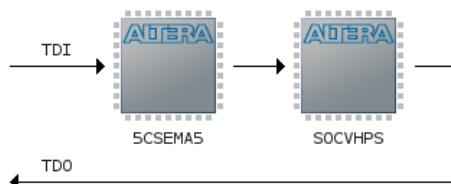

Figure 9-22. JTAG Scan Chain
You should now see 2 devices on the JTAG scan chain, as shown in Figure 9-22.
46. Right-click on the “5CSEMA5” device shown in Figure 9-22 and choose “Edit > Change File”. Then, select “DE1\_SoC\_demo/hw/quartus/output\_files/DE1\_SoC\_demo.sof” through the file browser.